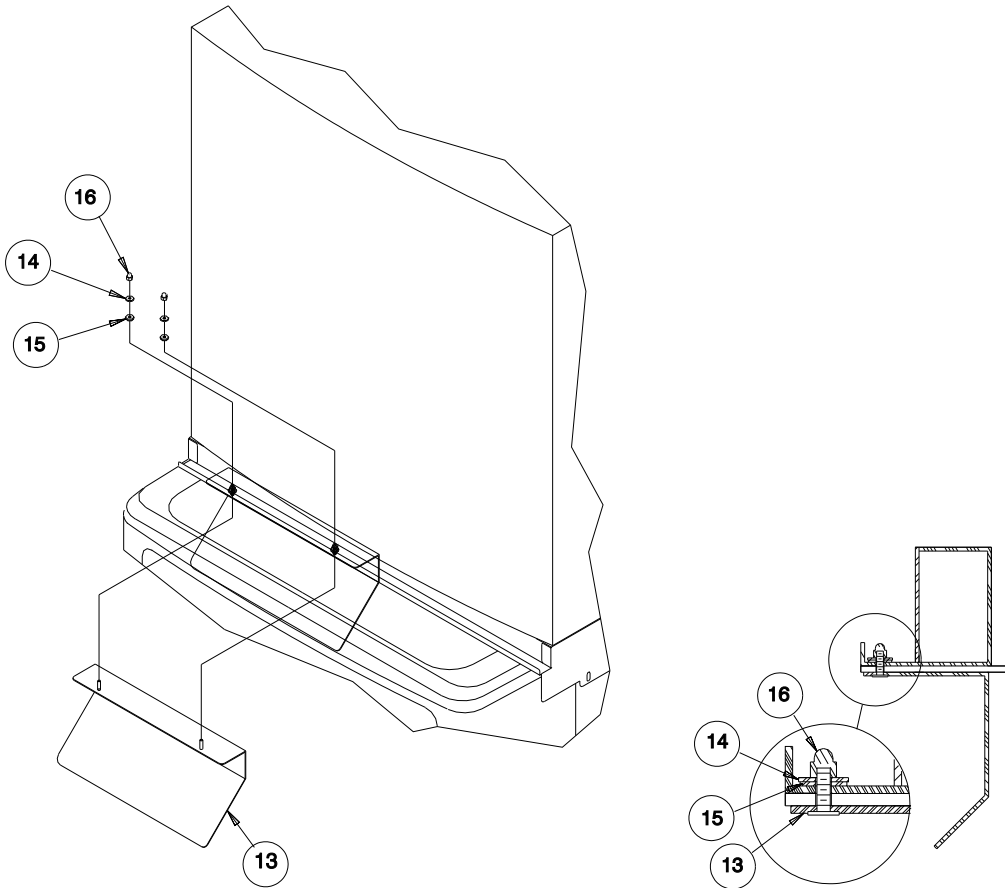

Figure 2. Detail "A"
4. Follow the Ice Maker manufactures instructions to complete the installation of the Ice Maker including the BIN THERMOSTAT KIT (item 12). See Figure 2.